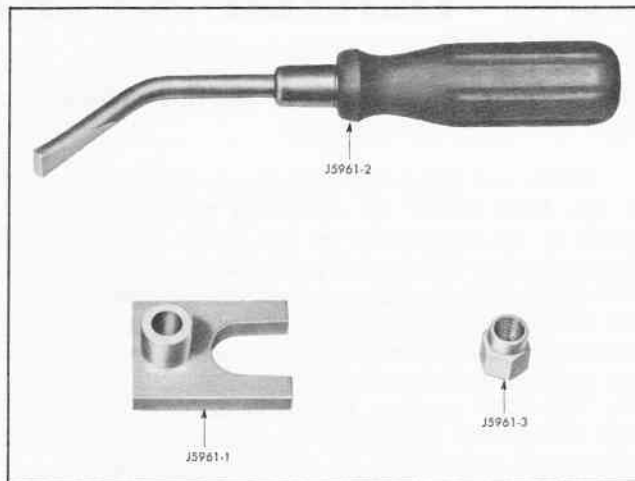
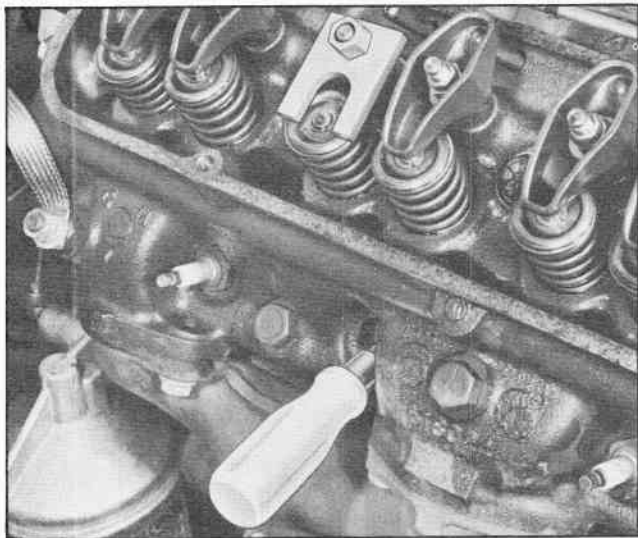

Fig. 1 Valve Stem Oil Splash Shield Installation
Fig. 2 Valve Spring Compressor and Valve Holder Installed
To simplify the installation of this shield and also to replace valve stem oil seals and valve springs, a new tool #J-5961 valve spring compressor set (Fig. 1) has been released. With this tool it is possible to install the oil shields, seals, and springs without removing the cylinder head.
- b. Oil rocker arm stud and place Valve Spring Compressor J5961-1 and J5961-3 nut (Fig. 1) in place over stud and against valve spring retainer cup (Fig. 2).
- c. Place Valve Holder J5961-2 (Fig. 1) in spark plug port and position end of holder against head of valve (Fig. 2).